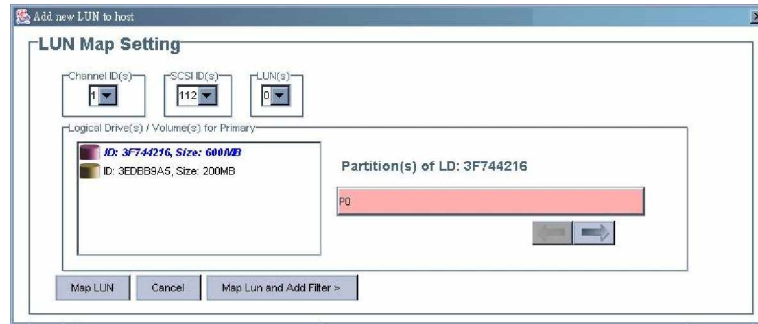

Figure 10-4: LUN Map Setting Window: Single Partition
- Step 5.** Click on the **Map LUN** button to complete the process. (See *Figure 10-4*)